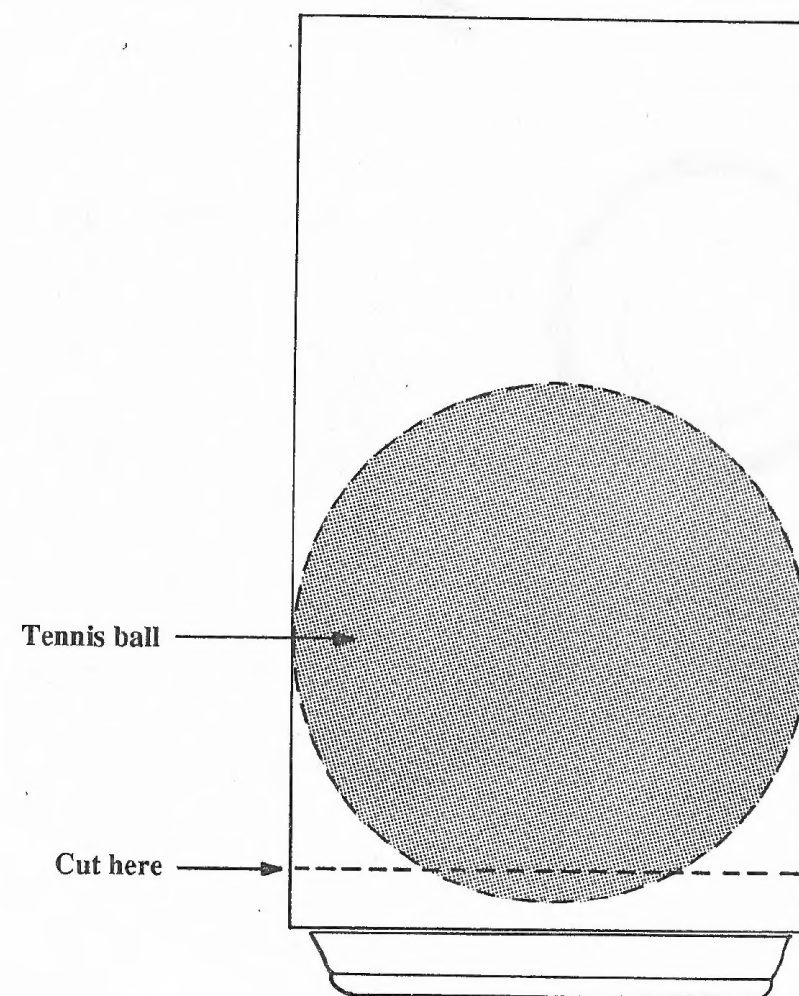

Figure 4
4. Next, the bottom needs to be cut off. At this point, the aluminum can will be very flimsy. Insert the tennis ball into the can, pushing it all the way to the back. This gives the can added support while you cut the bottom off. (See Figure 4.) In a manner similar to the top, draw a line all the way around the can, about $\frac{1}{4}$ " from the bottom. Cut off the bottom along this line and smooth the edge as was done on the top.